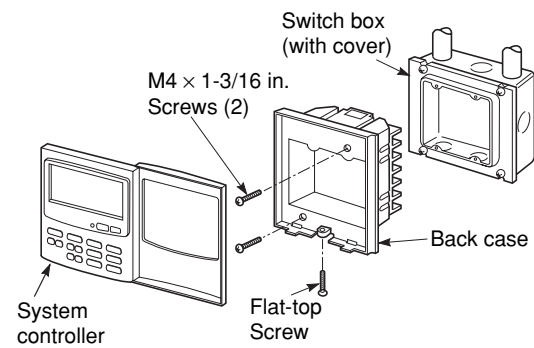

Fig. 8-1
- (1) Remove the flat-top screw on the bottom of the back case. When you open up the decorative cover, you will see two gaps under the system controller. Insert a coin into these gaps and remove the back case. (Figs. 8-1, 8-2)
- (2) Connect the wires to terminal base of the system controller (see next page).
- (3) Attach the back case with the 2 M4 screws provided.
- (4) To finish, fit the back tabs of the back case into the system controller and mount it using the flat-top screw.